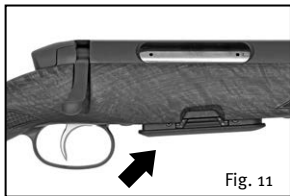

Fig. 11
1. First, make certain that the magazine has been removed or locked in second position (Fig. 11) and the weapon is unloaded!